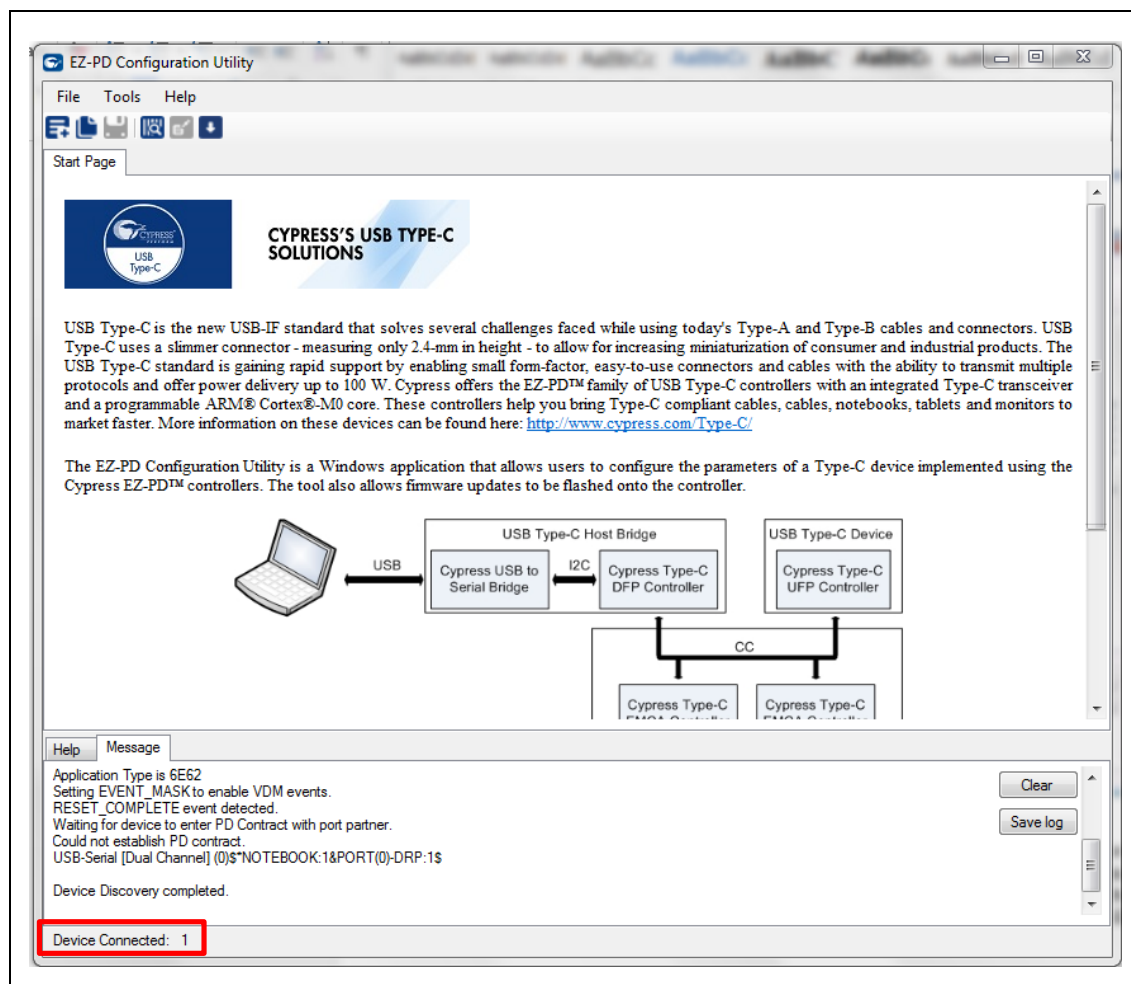

Figure 14 Configuration Utility showing valid connection to CY4541 CCG4 EVK
- Launch the EZ-PD Configuration Utility from **Windows > All Programs > Cypress > EZ-PD Configuration Utility > EZ-PD Configuration Utility**. If the device driver binding is successful, the GUI should report one device connected on the status bar of the GUI as shown in **Figure 14**.